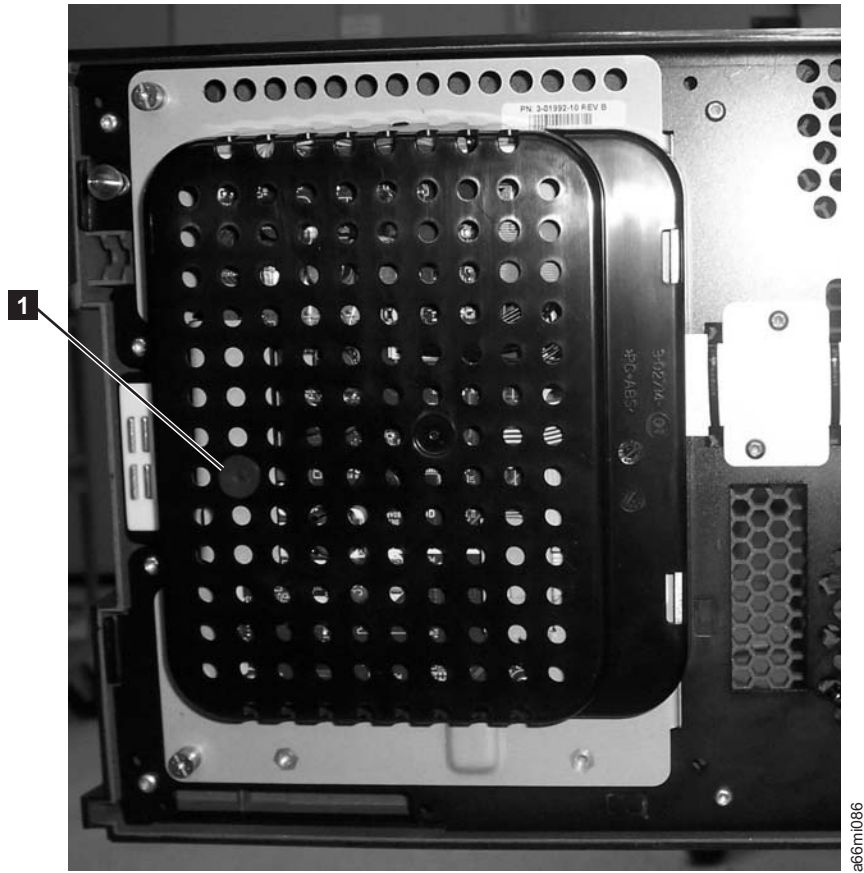

Figure 8-14. Operator Panel assembly
- b. Use a flat blade screwdriver to pry up on the plastic retaining pin (**1** in Figure 8-14 on page 8-20).